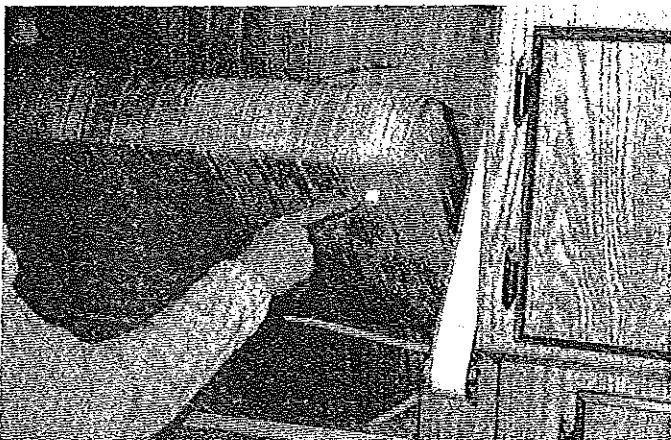

FIGURE 28
38a. On models with a rear dinette (Columbia, Sun Valley, Shenandoah, and Williamsburg), lift the backrest off the dinette table and slide the seat cushion inboard. Set the backrest in place against the side wall. Slide the seat cushion in place, making sure that the plastic stops are wedged firmly against the interior of the metal seat frame. (See Figure 28.)
To lift dinette seat, be certain to push the seat cushion firmly toward the backrest wall before lifting in order to prevent inadvertent damage to the plastic stops. See Figure 28.
14. Remove the backrests from their positions. Slide the seat cushions outboard and place the backrests, cushion side down, on the stored dinette table. See Figure 28.